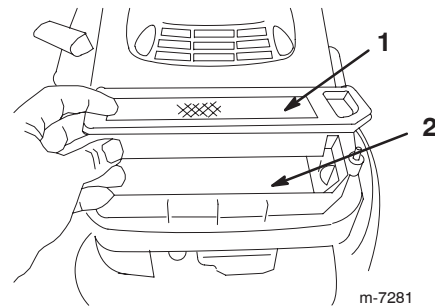

Figure 25
5. Remove the paper air filter and discard it (Fig. 25).
6. Remove the foam pre-cleaner and wash it with a mild detergent and water, then blot it dry (Fig. 25).